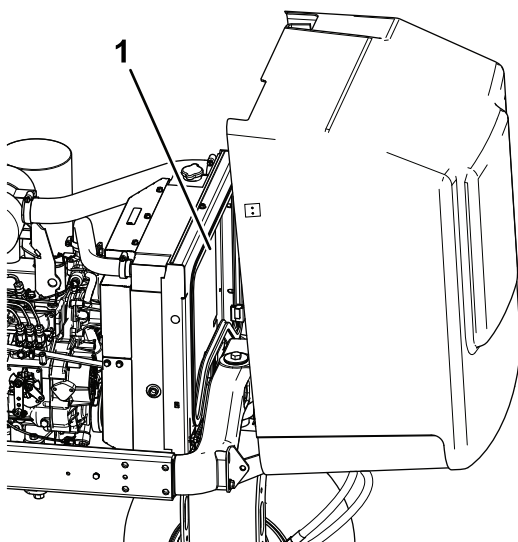

Figure 68
5. Clean both sides of the radiator area thoroughly with water or compressed air (Figure 68).